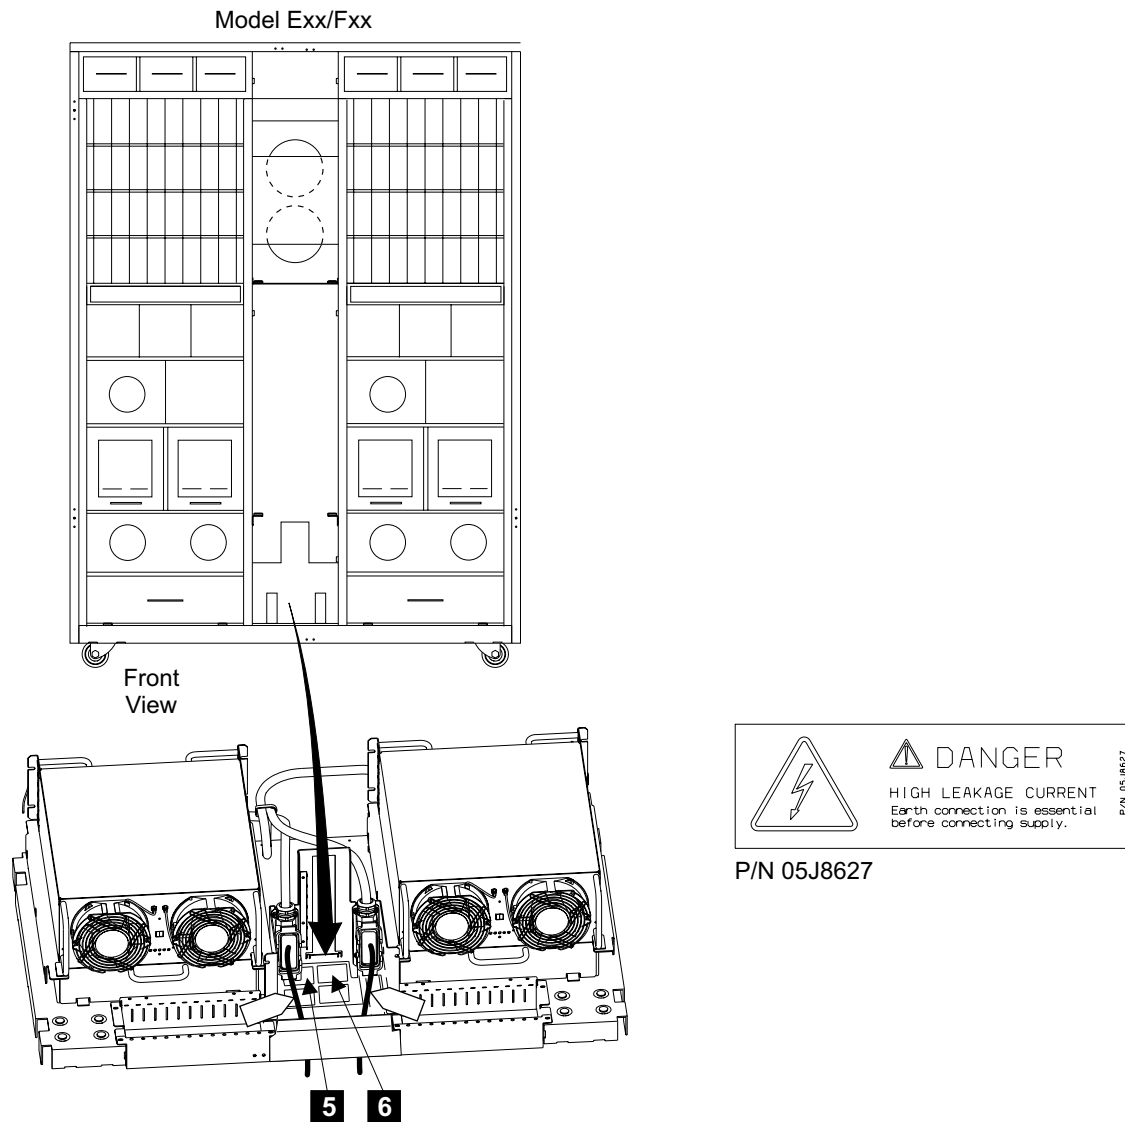

Figure 71. 2105 Model Exx/Fxx, Danger Leakage Current Safety Labels (S008820q)
4. Ensure that the danger leakage current safety labels are installed on the front tailgate areas of the 2105 Model Exx/Fxx. See Figure 71 on page 189.